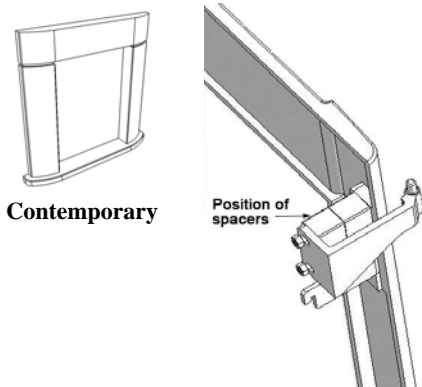

Fig 15, Hinge location for Contemporary stone mantels (2 spacers)
- use two spacers for each hinge bracket when securing to removable cast frame (fig 15);